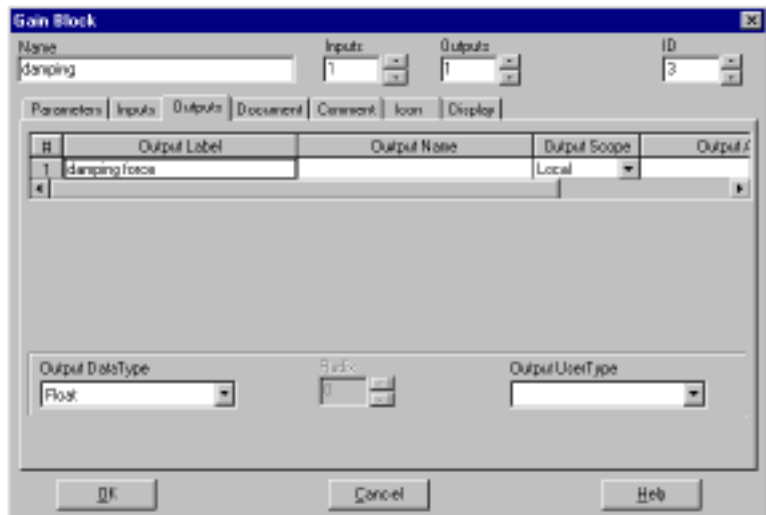

Figure 4-18. Gain Block (Outputs Tab)
- d. Click within the cell corresponding to output #1 **Output Label**, and enter **damping force**. (see Figure 4-18).